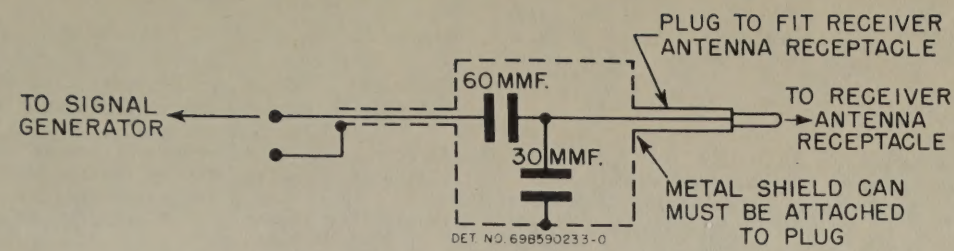

FIGURE 3. DUMMY ANTENNA
4. A dummy antenna for RF and tuner alignment (see Figure 3).